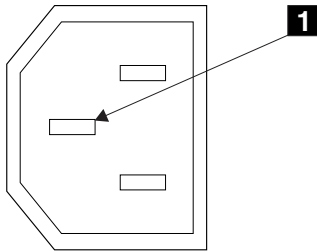

Figure 2. Ground pin
6. Check for continuity between the frame of the SAN Volume Controller 2145-8F2 and the ground pin of each main power connector. The ground pin is shown as **1** in Figure 2.